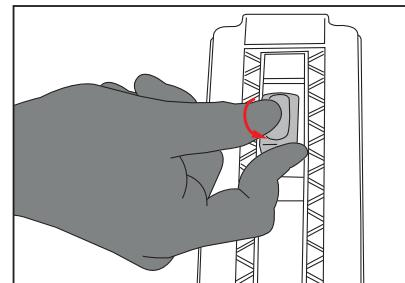

Figure 3.3
- To fold or adjust the height you must turn the rectangular button counter-clockwise 90° and then push in. Lower the walker to the desired height and then release the button. **See Figure 3.3.**